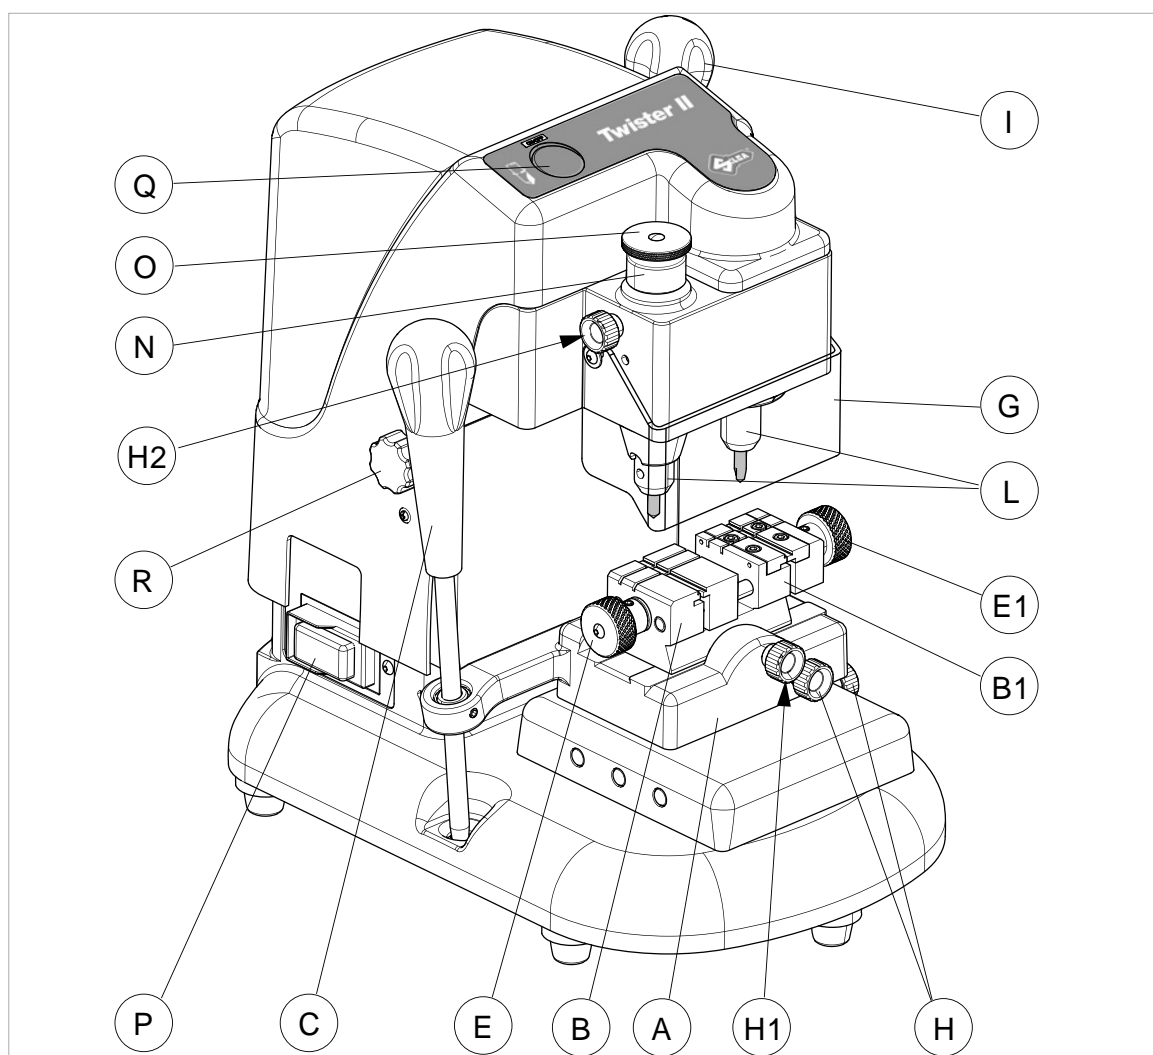

Fig. 6
- lever (I) for vertical carriage (Z axis)
- lever (C) X-Y axes
**Note: the letters in brackets refer to Fig. 6 on page 7.**
- **master switch (P).**
- **motor start switch (Q).**
- lever (C) to move the clamp carriage
- lever (I) to move the vertical carriage
**Note:** the letters in brackets refer to Fig. 6 on page 7.
Once the appropriate cutter and tracer have been installed, place two identical key blanks into the clamps and proceed as follows (see Fig. 6 on page 7):